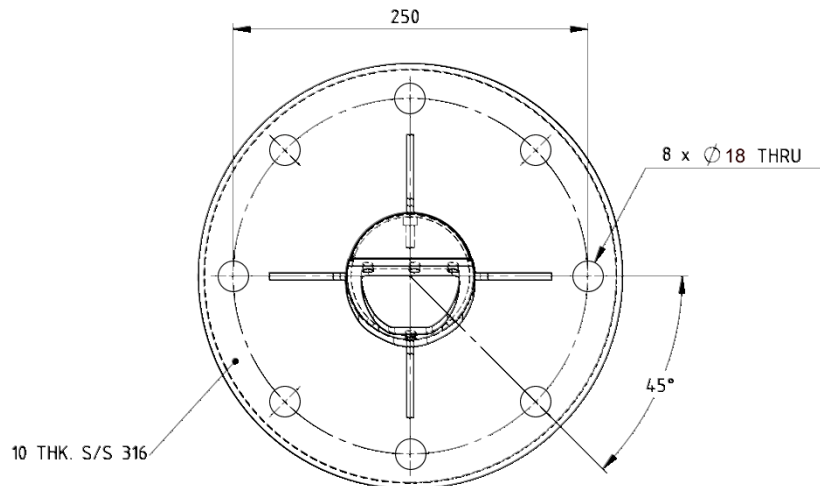

Figure 4: 250mm PCD
- 4 x 18mm holes are drilled to a depth of 130mm equally spaced on 250mm PCD as shown in Figure 4.